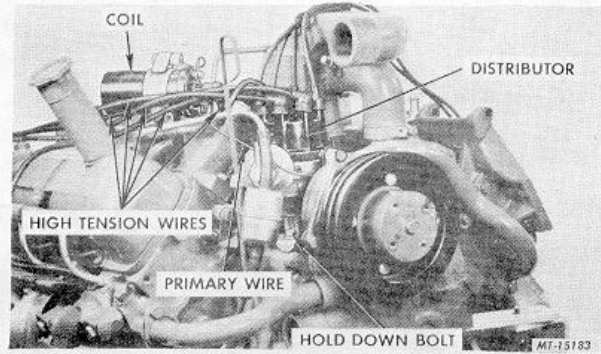

Fig. 15 Distributor Removal
- Disconnect the coil-to-distributor primary wire, Fig. 15.
18. Loosen the distributor hold-down bolt at the crankcase, Fig. 15, and remove the distributor and mounting gasket,